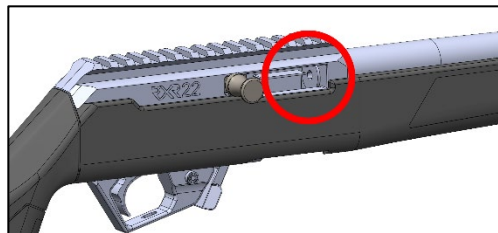

Figure 10
- Examine the chamber to ensure that no ammunition is present. Verify both visually and physically that the chamber is clear of ammunition and that the magazine is not latched into the magwell – Figure 10.